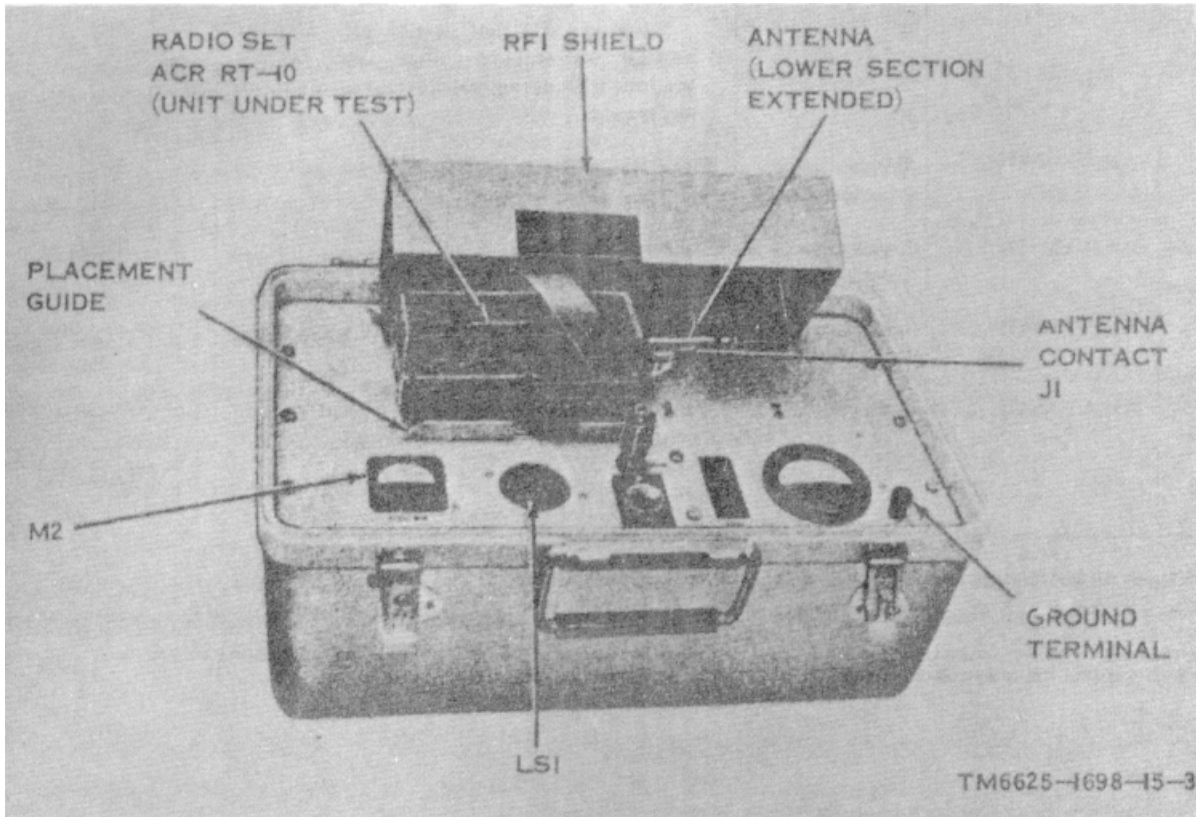

Figure 5-1. Typical Transmitter Test Using Test Set AN/URM-172
**Note.** Figure 5-1 shows Test Set, Radio Frequency Power AN/URM-172 used for a typical radio set performance check.